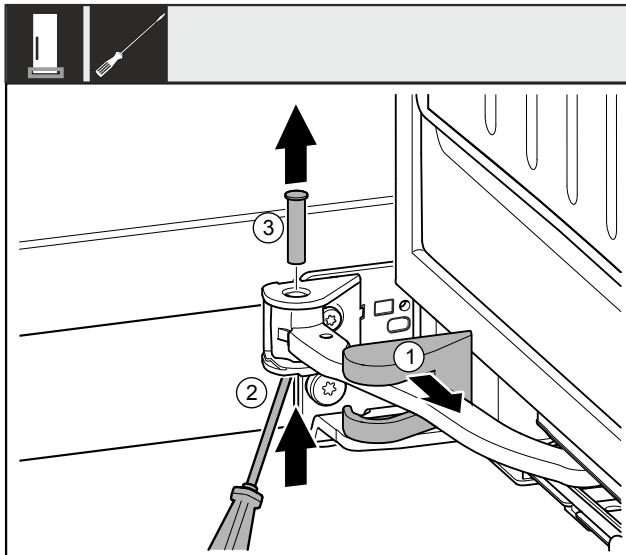

Fig. 9
- ▶ Remove the swap bearing block cover Fig. 9 (1) and slide along the joint.
- ▶ Use a screwdriver to lift the bolt Fig. 9 (2) from below.
- ▶ Pull out the bolt Fig. 9 (3) from above.